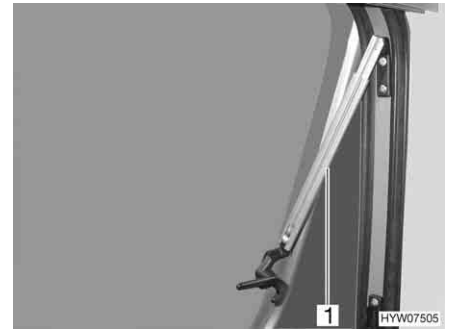

Fig. 51 Hinged window with automatic hinges, open
- Open the hinged window to the desired latched position. The automatic hinge (Fig. 51,1) locks in place automatically.